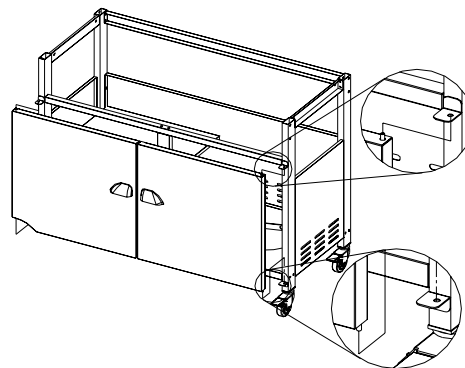

Figure 9
5. Insert hinge pin in hole on the bottom of right side door. Then insert another hinge pin onto front grill carts then align door with right side door bracket. Push spring pin located on top edge of door and slide door toward right side door bracket until spring pin locks into hole in door bracket. Repeat for other door. (Fig.9)